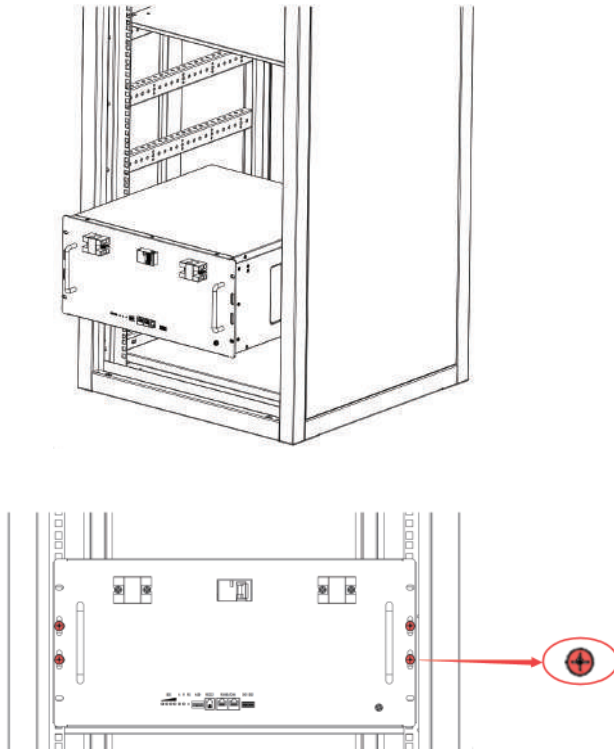

Figure 6-2 Fix the Battery on the Cabinet or Rack
- 2 Put the battery into cabinet or rack. As shown in Figure 6-2.